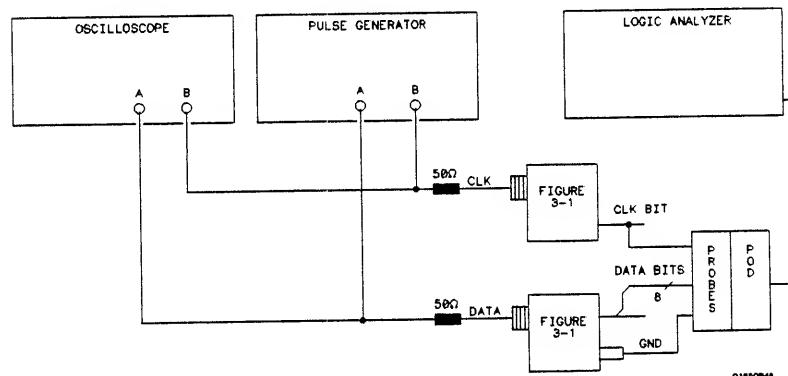

Figure 3-14. Setup for Data Test 3
6. Press RUN. The **State Listing** is displayed and lists all 0s for the channels under test, if passed test, as in figure 3-14.